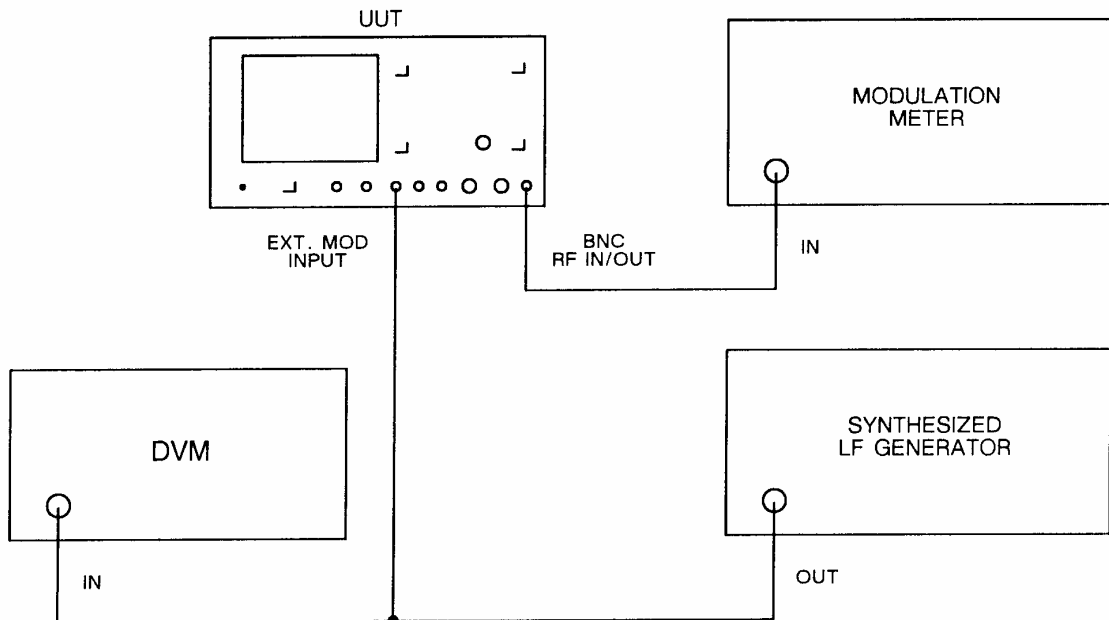

Fig. 5-1-23 Test equipment connections for RF generator external AM & FM performance checks
- (1) Connect the equipment as shown in Fig. 5-1-23.